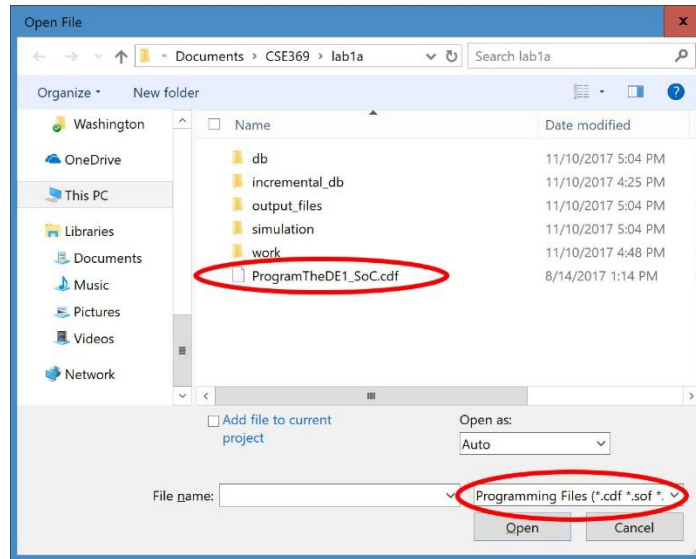

Figure 11: Open the chain description file (.cdf) to program the DE1-SoC
- 3) In Quartus, go to File→Open. In the “Files of type” box at bottom, select “Programming Files (*.cdf ...)” and then double-click on *ProgramTheDE1_SoC.cdf* (*Figure 11*).